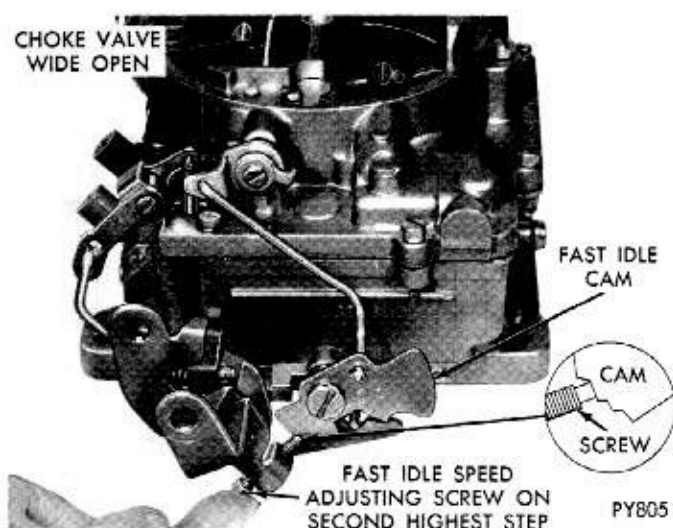

Fig. 20—Fast Idle Speed Adjustment (On Vehicle)
- (1) With engine off and transmission in **PARK** or **NEUTRAL** position open throttle slightly.
- (2) Close choke valve until fast idle screw can be positioned on the second highest speed step of fast idle cam (Fig. 20).
- (3) Start engine and determine stabilized speed.